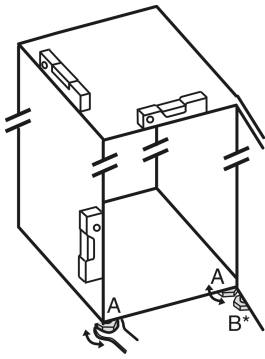

Fig. 8
- Unscrew the adjustable feet Fig. 8 (A) using the enclosed open-end spanner and a spirit level until the appliance is firmly aligned and level.
- Unscrew the adjustable foot Fig. 8 (B) on the swap bearing block with the enclosed open-end spanner until it rests on the floor.
- Turn the adjustable foot Fig. 8 (B) 90° further.